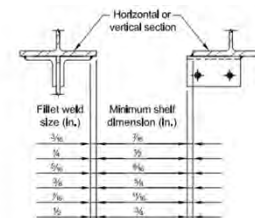

Fig. 8-11. Recommended minimum shelf dimensions for SMAW fillet welds.
- Min degree for access Ref Fig 8-11